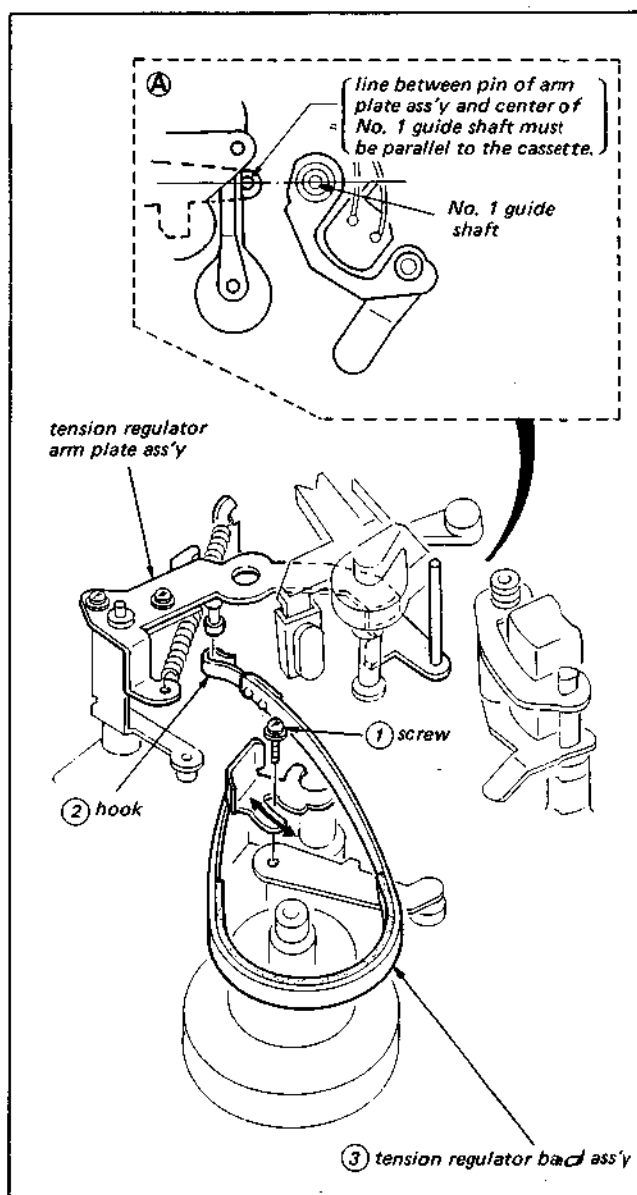

Fig. 3-10. Replacement and adjustment of the tension regulator band assembly
- The tension regulator band assembly can be removed after removing screw ① and hook ② shown in Fig. 3-10.
- Move the tension regulator band assembly ③ in the arrow direction as shown in Fig. 3-10 so that the positional relationship of the brake band assembly is as shown (A) in Fig. 3-10. Then tighten screw ①.